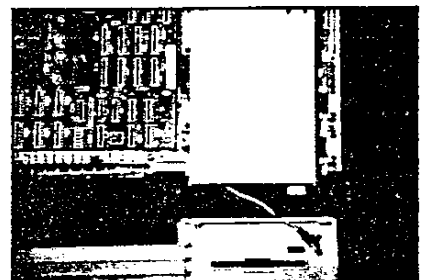

Fig. 3-5. Drive Screw Locations
3.3.2 Install the 4 screws in the sides of the drive bracket at locations T2, T4, L2, L4. See Fig. 3-5.